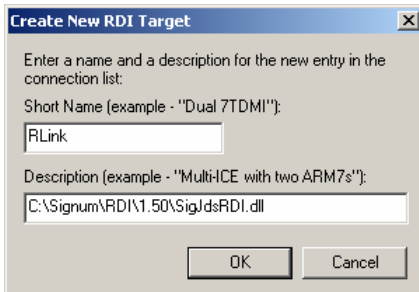

FIGURE 6 Naming and describing the new target connection.
4. Enter a name and description for the new target connection (Figure 6). Click OK.